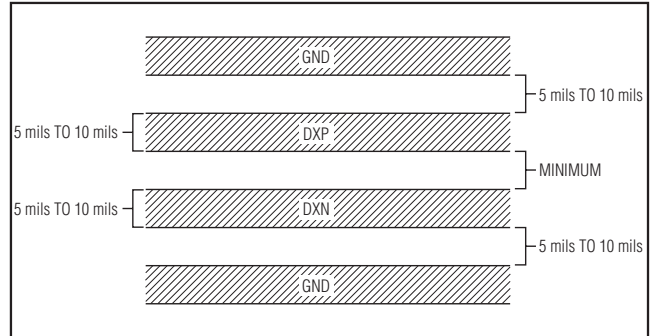

Figure 5. Recommended DXP-DXN PCB Traces. The two outer guard traces are recommended if high-voltage traces are near the DXN and DXP traces.
- 3) Route the DXP and DXN traces in parallel and in close proximity to each other. Each parallel pair of traces should go to a remote diode. Route these traces away from any higher voltage traces, such as +12VDC. Leakage currents from PCB contamination must be dealt with carefully since a $20\text{M}\Omega$ leakage path from DXP to ground causes about $+1^\circ\text{C}$ error. If high-voltage traces are unavoidable, connect guard traces to GND on either side of the DXP-DXN traces (Figure 5).